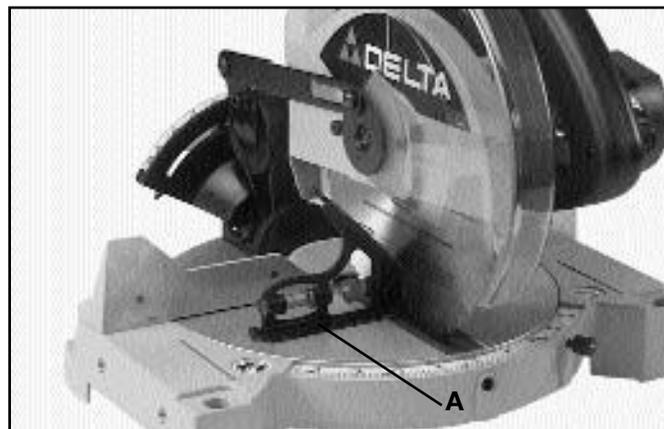

Fig. 21
2. Move the cutting arm to the 90 degree bevel stop position, as shown in Fig. 21, and tighten the bevel lock handle.
3. Using a square (A) Fig. 21, place one end of the square on the table and the other end against the blade. Check to see if the blade is at 90 degrees to the table, as shown.